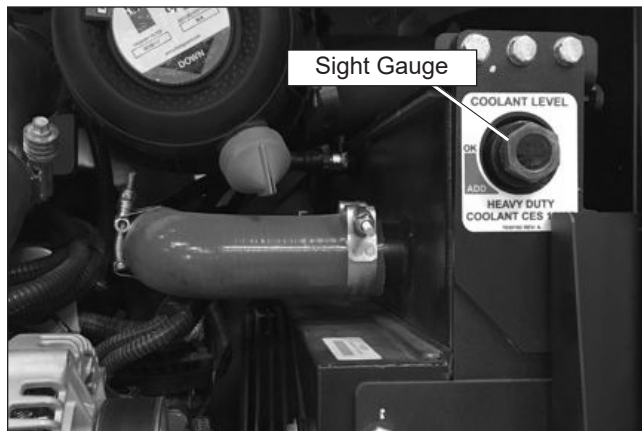

Figure 7.2 – Right Side of Turntable
- When the engine is cold, the coolant level should be visible in the sight gauge at the top of the coolant tank (refer to Figure 7.2).